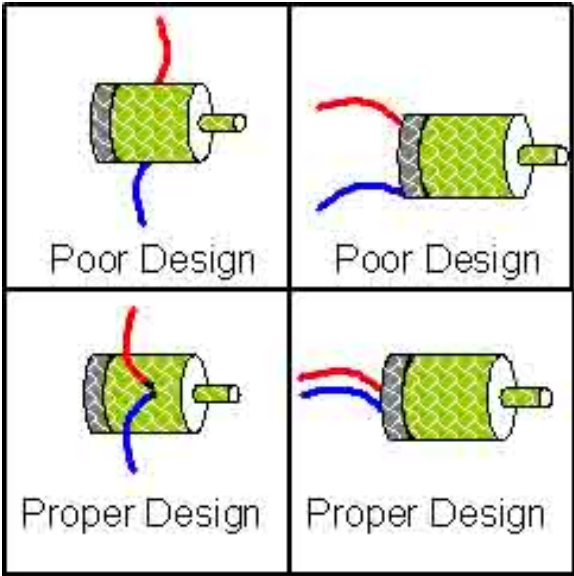

Figure 8. Power leads should exit the motor housing in close proximity.
E. The power leads should exit the motor housing in close proximity to each other. Figure 8 demonstrates proper and improper lead exit points in the motor housing. This serves three purposes.